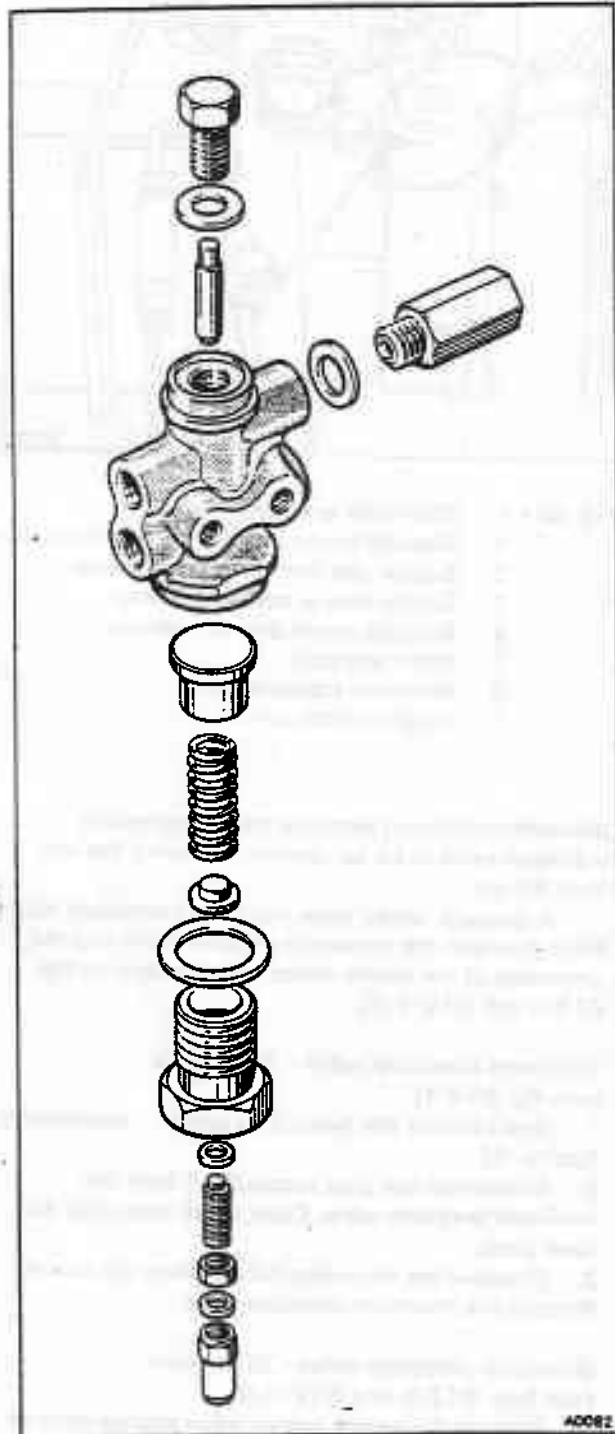

Fig. G14-2 Minimum pressure valve with adjuster
Restrictor screwed into the minimum pressure valve - To renew (see figs. G14-2 and G14-3)
(see figs. G14-2 and G14-3)
5. Remove the adjuster from the large end cap (see fig. G14-2). Retain the adjuster screw, lock-nut, and domed end nut.